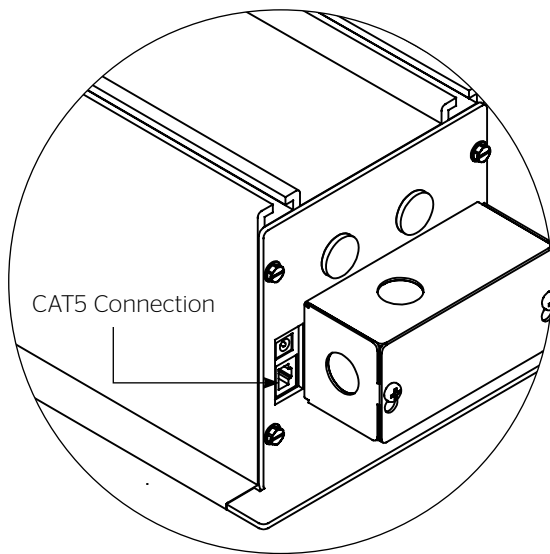

Figure 1
1. Plug your CAT5 cable into connection port located on the left end of the Tensioned Advantage (Featuring ViewShare Technology) (Figure 1).